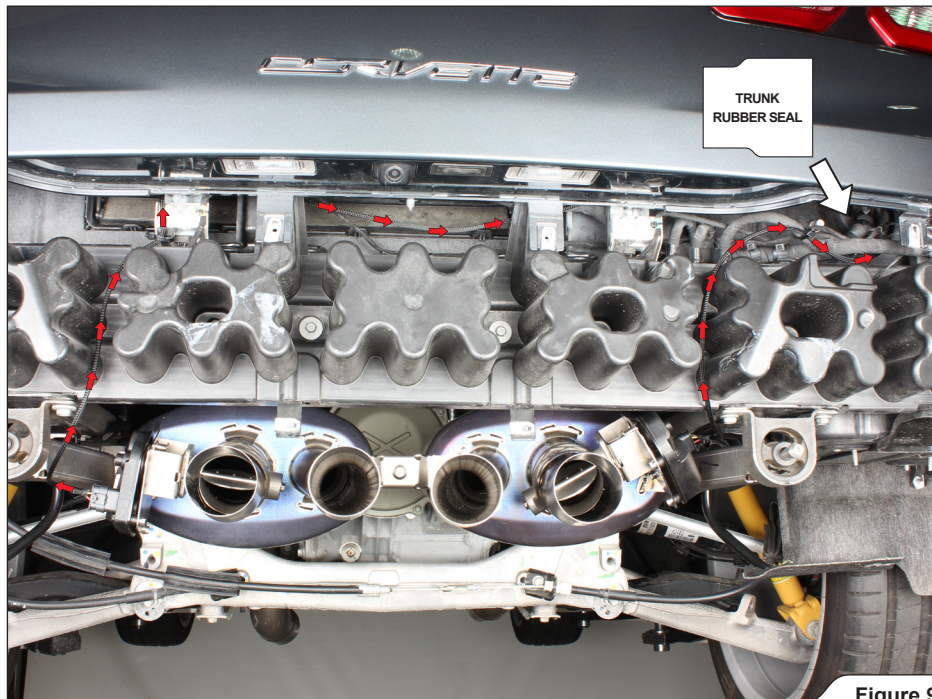

Figure 9
8. Direct the longer exhaust valve's actuator harness from left servo to the trunk rubber seal and shorter from right servo to the trunk rubber seal; secure the harnesses using tie wraps from Akrapović installation kit (**Figure 9**).